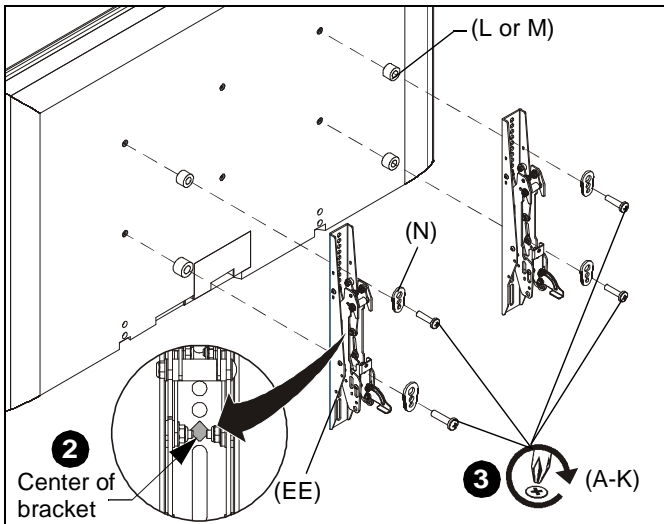

Figure 6
2. Align the center of the interface bracket (EE) with center of display. (See Figure 6)
3. Select correct screws, spacers (if necessary) and universal washers from the hardware bag (A-N) and attach brackets (EE) to back of displays. (See Figure 6)